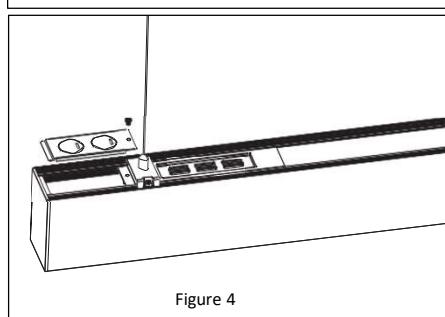

Figure 4
8. Open the end of the fixture for wiring. *See Figure 4.*